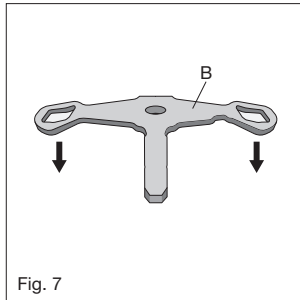

Fig. 7
9. Install hold-down clamp **(B)** with clamp curvature as shown in Figure 7.